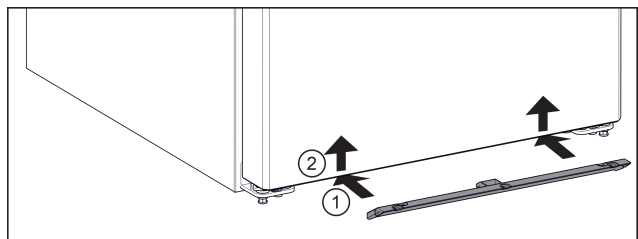

Fig. 5
- Slide the mosquito screen under the appliance. Fig. 5 (1)
- Push the mosquito screen upwards with both hands. Fig. 5 (2)